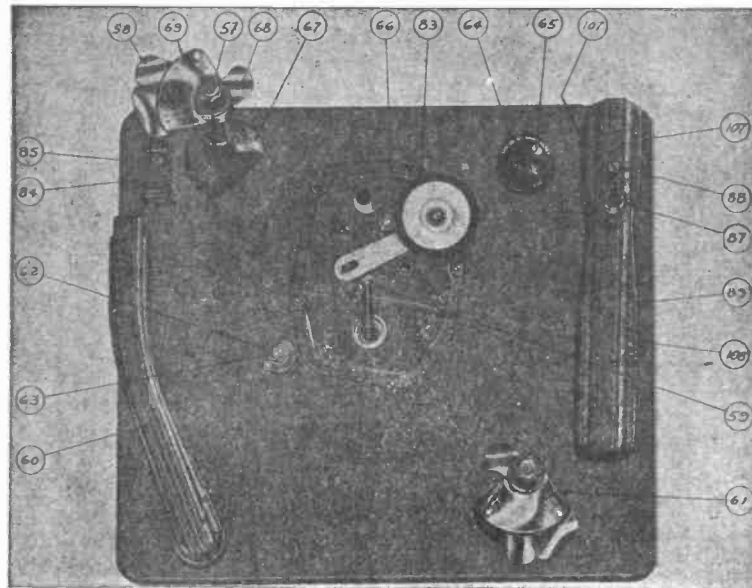
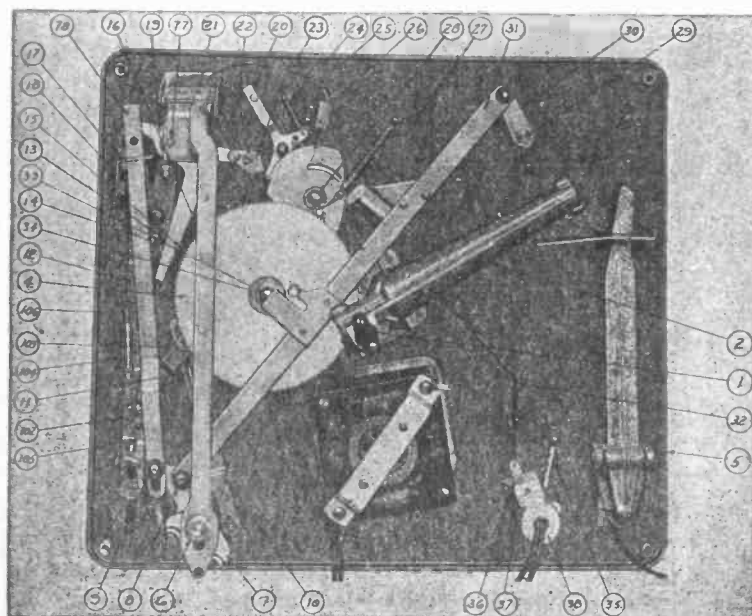
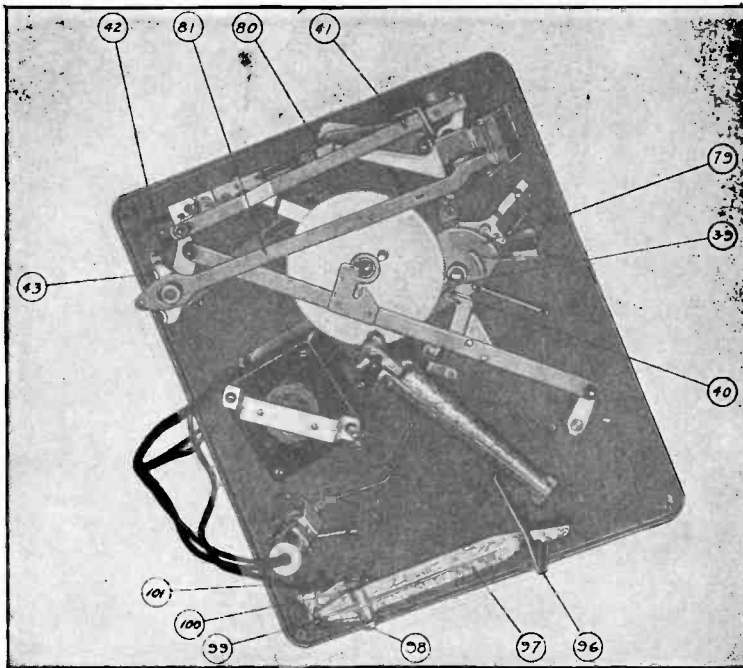

Figure 6
Figure 7
Figure 8
When Manual Control Button (Item 84, Fig. 6) is moved to the Manual Play-Back recording position, it moves the Manual Control Slide (Item 102, Fig. 7) which in turn moves Clutch Lock Slide (Item 103, Fig. 7) into a position which prevents Engagement Clutch Cam Assembly (Item 79, Fig. 8) from rotating. When Engagement Clutch Cam Assembly is in the above mentioned position and is not free to rotate, the Changer will not go into its changing cycle.
Also when the Manual Control Button is in the above mentioned position, the Manual Control Slide has moved the Locator Lock Slide (Item 106, Fig. 7) into a position where it engages the Tone Arm Locator & Bushing Assembly (Item 12, Fig. 7) and prevents same from bearing against Tone Arm Lever Assembly (Item 19, Fig. 7) allowing the Tone Arm to swing freely without hindrance and without setting Changer into its changing cycle. When the Manual Control button is in the automatic position the Changer will function normally as an automatic record changer.
(A) Threads from record cuttings getting down onto Rubber Idler wheel (Item 83, Fig. 6) and between drive wheel and motor pulley. This will cause very bad speed variation of the turntable and, of course, will result in very inferior recording. Cuttings may also wrap around motor shaft and cause motor to slow down or stop.
(B) *Tight pivot bearings:* Check cartridge pivot screw (Item 108, Fig. 6) for binding. Also recording arm pivot screw (Item 107, Fig. 6) and Traverse arm pivot screws (Item 101, Fig. 8). These bearings should all be free, but have no looseness or play.
If the pivot screw, (Item 108, Fig. 6) of the Cutter Cartridge is tight, the Cutter Cartridge cannot follow a slight up and down variation of the record or turntable. A record cut in this manner will, when played back, have a high scratch level, rough cutting and a tendency for the needle to jump from one groove to another.
(C) *Damaged Rubber Idler Drive Wheel* (Item 83, Fig. 6) *Rubber Idler Drive Wheel may have become*
(F) *Bent or Damaged Turntable Spindle:* If the Turntable Spindle (Item 59 Fig. 6) has been bent in shipment, or by someone exerting a heavy pressure on one side, it should be replaced with a new one. A bent Turntable Spindle will cause the surface of the Turntable to move up and down while it is turning and, of course, will seriously effect the quality of both recording and play-back.
(G) *Record Cutting Causing A Bind Between Turntable Spindle* (Item 59, Fig. 6) *and Its Bearing:*
(H) *Tension On Rubber Idler Drive Wheel* (Item 83, Fig. 6) *Too Great:*
(I) *Tension On Rubber Idler Drive Wheel* (Item 83, Fig. 6) *Too Weak:*